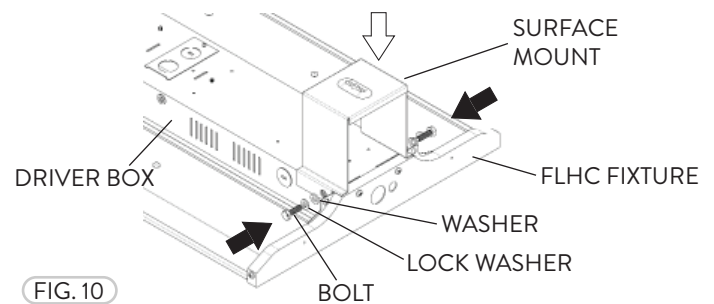

FIG. 10
- 2 Once the Surface Mounts are installed onto the surface and properly secured, place fasteners through the holes on each side of the FLHC Driver Box (Fig. 10). Fasten the Bolt, Lock-Washer and Washer to the FLHC Fixture.